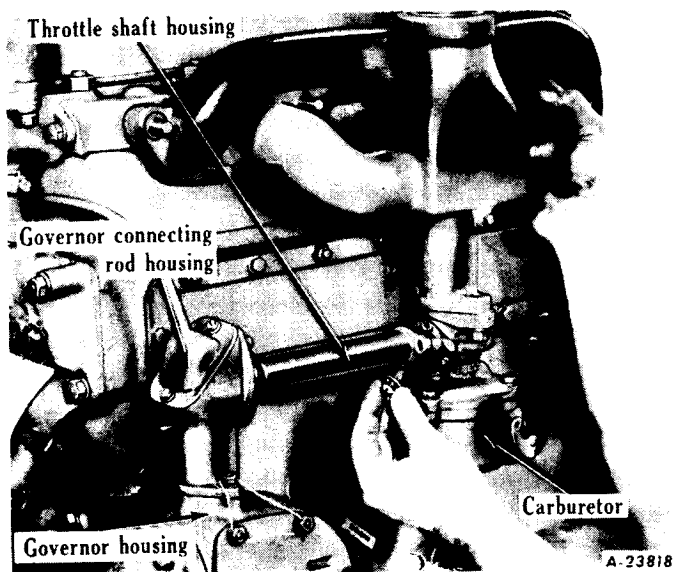

Fig. 5 - Removing Throttle Shaft Housing from Carburetor.
4. 175 AND 281 SERIES: Remove the cap screws and lock washers that secure the governor throttle shaft housing to the carburetor (Fig. 5).
7. Remove the nuts and washers securing the manifold to the cylinder head (Fig. 5).
2. 175 AND 281 SERIES: Pull the governor throttle shaft housing (Fig. 5) with throttle shaft and gasket up to the carburetor and engage the throttle shaft with the butterfly. Secure the throttle shaft housing to the carburetor.